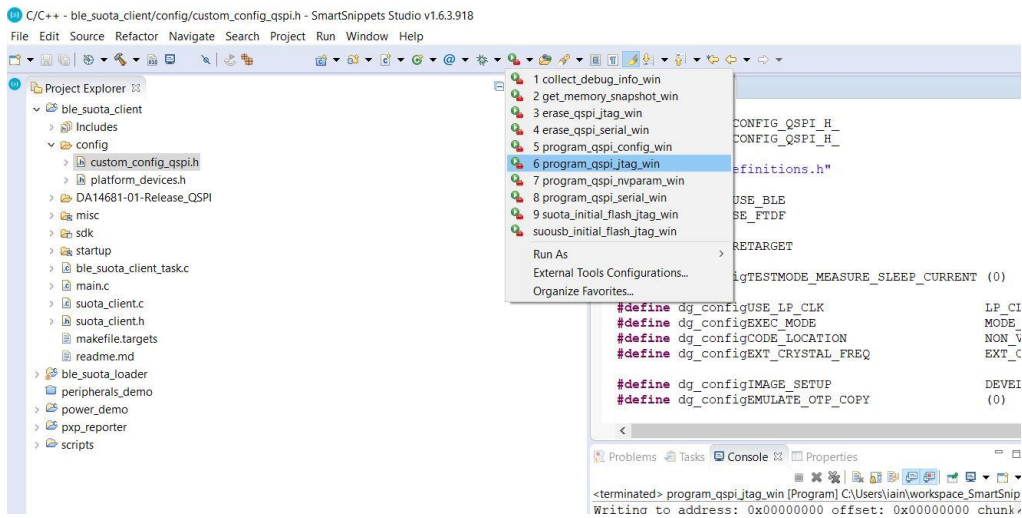

Figure 57: Flash the ble\_suota\_client binary to the QSPI Flash
2. Select the External Tool Configurations button, choose the appropriate script file (in Figure 57 the program\_qsapi\_jtag\_win script is used) to program the QSPI Flash memory and execute it.